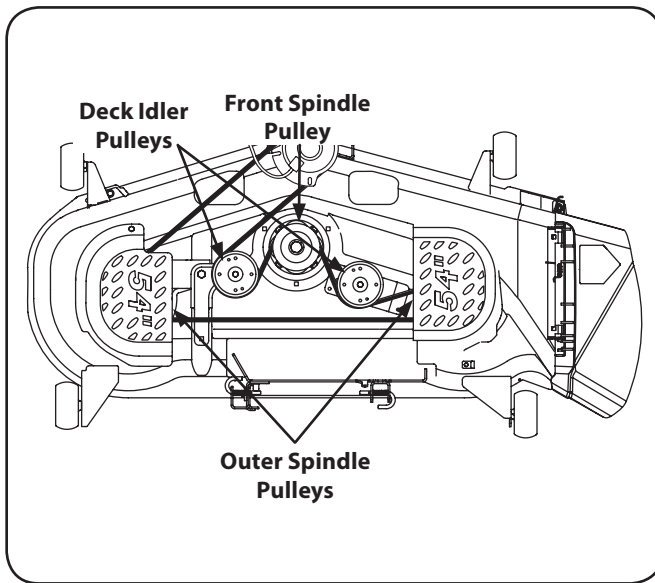

Figure 7-9
5. To place the new belt begin by routing the belt around the two outer spindle pulleys, then around the front spindle pulley as shown in Fig. 7-9.
6. Route the belt around the two deck idler pulleys as shown in Fig. 7-9.